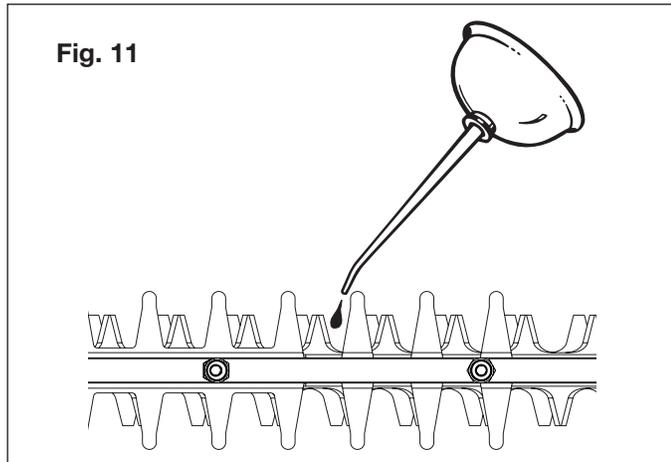

Fig. 11
2. Lay the hedge trimmer on a flat surface. Apply lightweight machine oil along the edge of the top blade (Fig. 11).